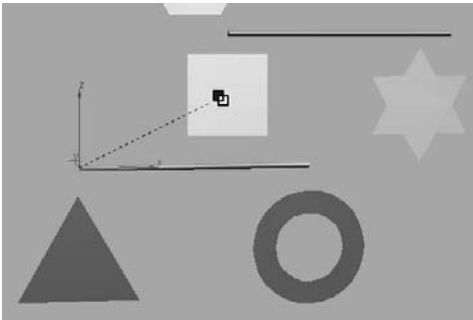

Figure 2.38
3. With the Select and Link tool, click and drag from the bottom bar that holds the triangle and donut to the square shape above it, as shown in Figure 2.38. The bar is hanging from that square as if this were a real mobile, so you would link it as such. If you want to check your work, select and move the square and the bar. The shapes beneath it will move with the square. Just make sure to press Ctrl+Z to undo any moves you made to check the linking.